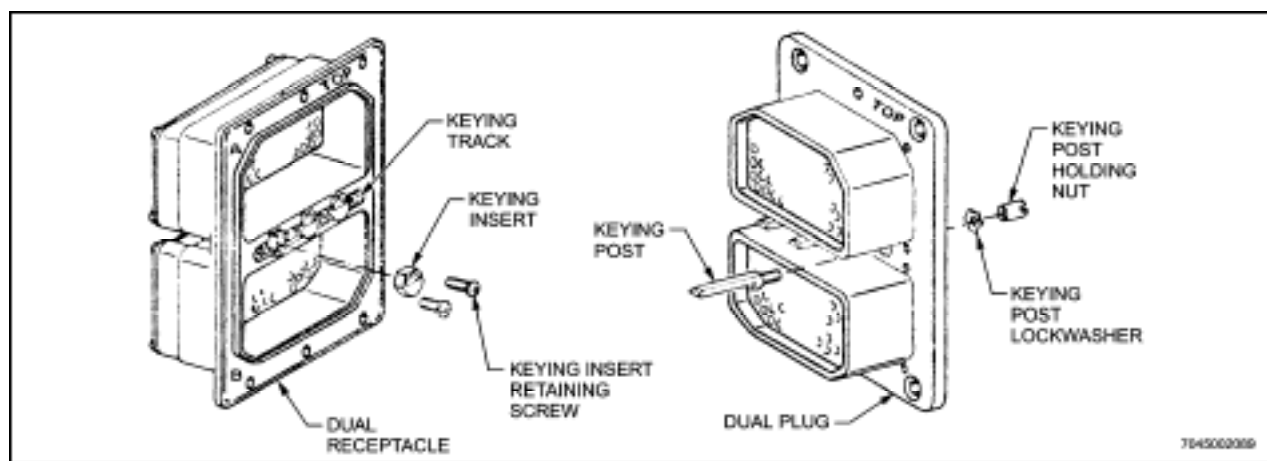

Figure 10–51 Assembly of MIL-C-81659 Connectors Polarization (Keying) Posts and Inserts
shown in Figure 10–52. Size 5 and 9 connectors are equipped with rear-release contacts that may be released and removed from the rear of the connector with the use of special tool MS3178-001.
- (2) Slip ferrule (when needed) over cable. The crimp end of the ferrule should face the end of the cable and the shoulder end of the ferrule should face away from the end of the cable. (See Figure 10–55)
- (3) Strip cable using stripping lengths given in Table 10–27 and illustrated in Figure 10–56. For
braided cable, flare braid. (See Figure 10–55.)
- (4) With crimping tool handles fully open, rotate contact locator-stop knob (on back of tool head) to open position. (See Figure 10–57)
- (5) Insert centre conductor of coaxial cable into centre contact wire barrel until cable dielectric butts against rim of wire barrel. Then place contact in tool head as shown in Figure 10–57.